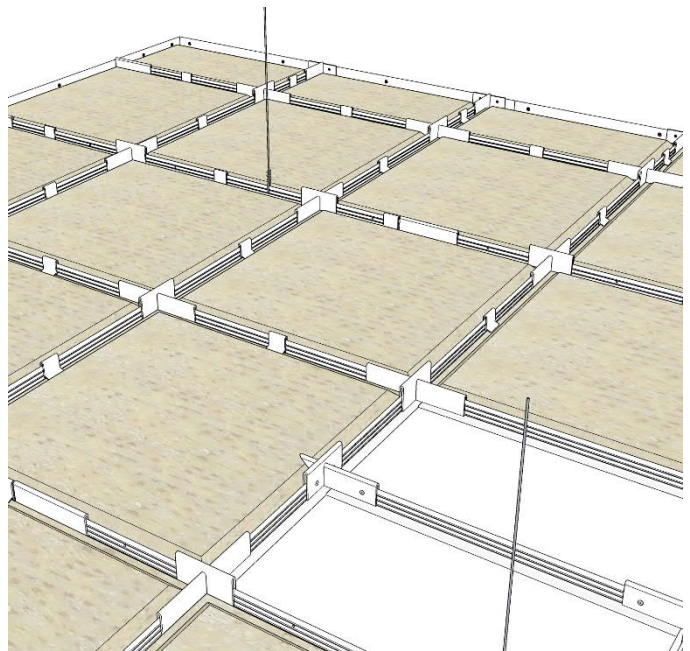

FIG. 22
2. Cut the border lay-in ceiling panels to fit their openings and seal edges if required for panel type as required following manufacturer's recommendations. Install the cut lay-in panels using the proper **Panel Clips** as required to finish the complete ceiling system. FIG. 22